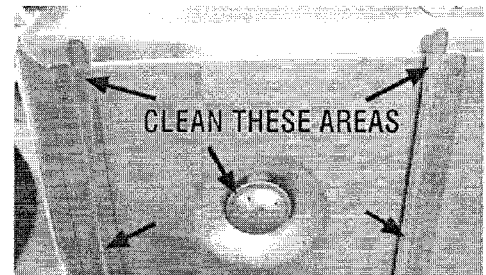

Fig. 8
**As necessary**, the area between the brew cone rails and above the brew cone *should* be wiped clean with a damp cloth as coffee oils will gradually collect on these surfaces. (Fig. 8)